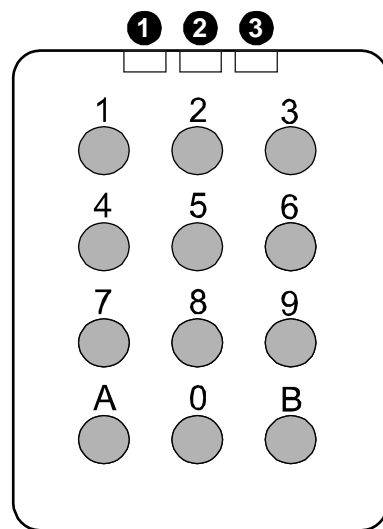

Fig. 1 Keypad CD30
3. Remove the cylinder ring and door handle from the door by loosening the four screws. See figure 1.